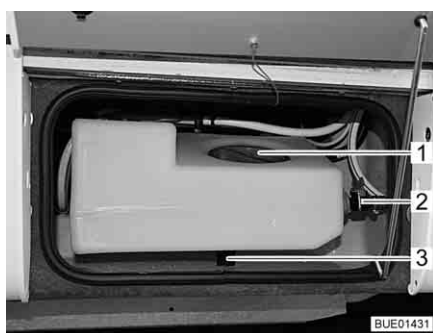
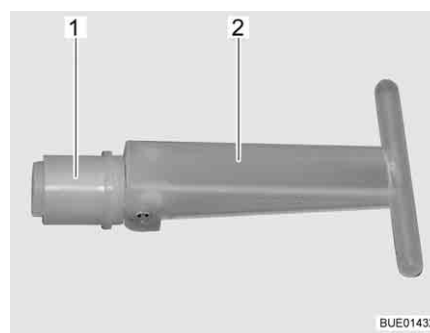

Fig. 162 Auxiliary water tank
Fig. 163 Stopper
When the emptying valve (Fig. 162,2) is open, the fill quantity of the auxiliary water tank is limited to approximately 30 litres; excess water will drain off. When the emptying valve is shut, the entire tank volume is available.
When the stopper (Fig. 163,1) is pulled in the inside of the auxiliary water tank, the water drains away via the drain (Fig. 162,3). The stopper can be accessed via the service opening (Fig. 162,1).
- Ensure that the stopper (Fig. 163,1) in the auxiliary water tank is shut (handle (Fig. 163,2) is folded out).
- Ensure that the emptying valve (Fig. 162,2) is shut.
- Open the service opening (Fig. 162,1) in the auxiliary water tank.
- Access the handle (Fig. 163,2) of the stopper (Fig. 163,1) via the service opening, turn the handle to the vertical position and remove the stopper.